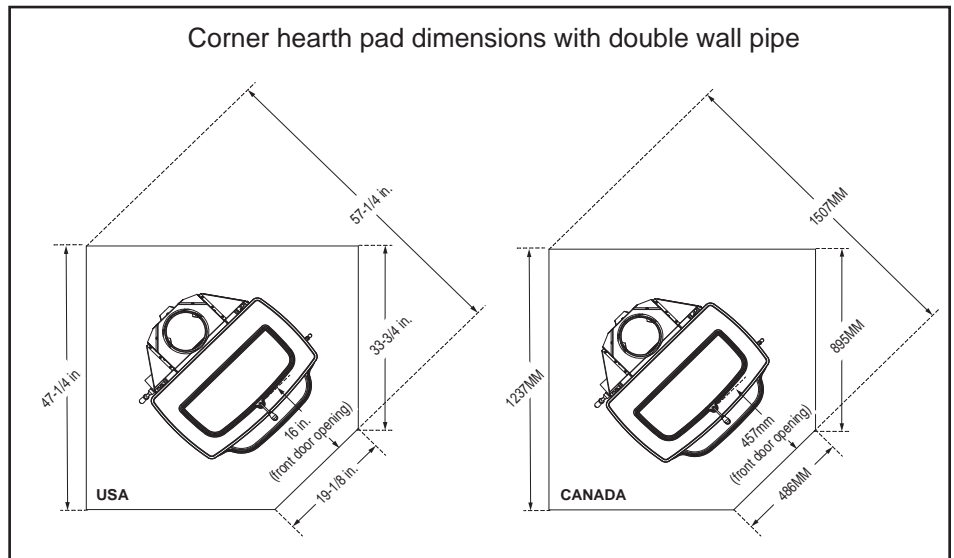

Figure 3.8
**In Canada,** similar floor protection must be provided 18" (457 mm) in front and 8" (203 mm) from the sides and rear of the appliance, Figure 3.8